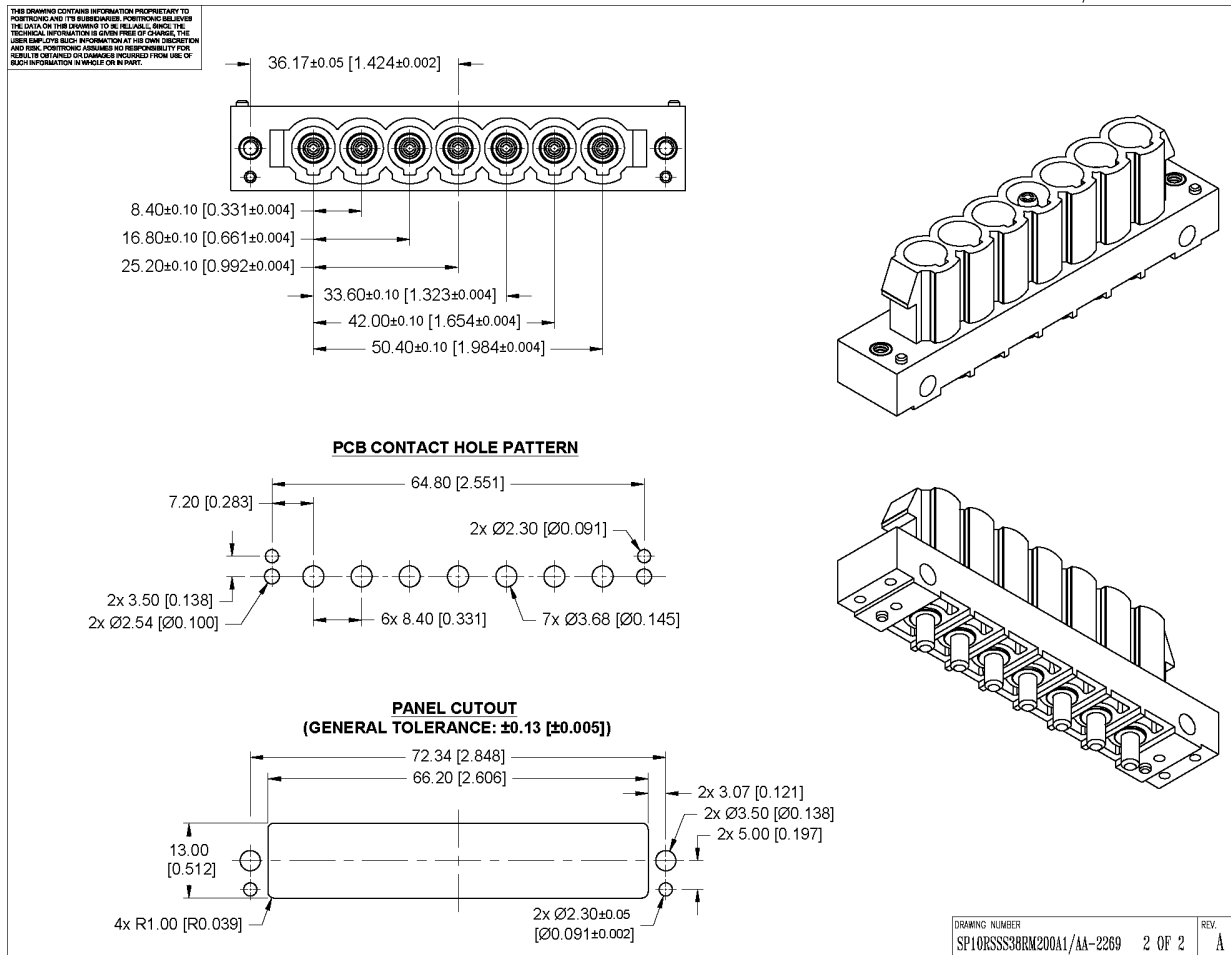

Figure 5.15 SP10RSSS38RM200A1/AA-2269
- For Left connector, refer to Figure 5.15 (SP10RSSS38RM200A1/AA-2269)